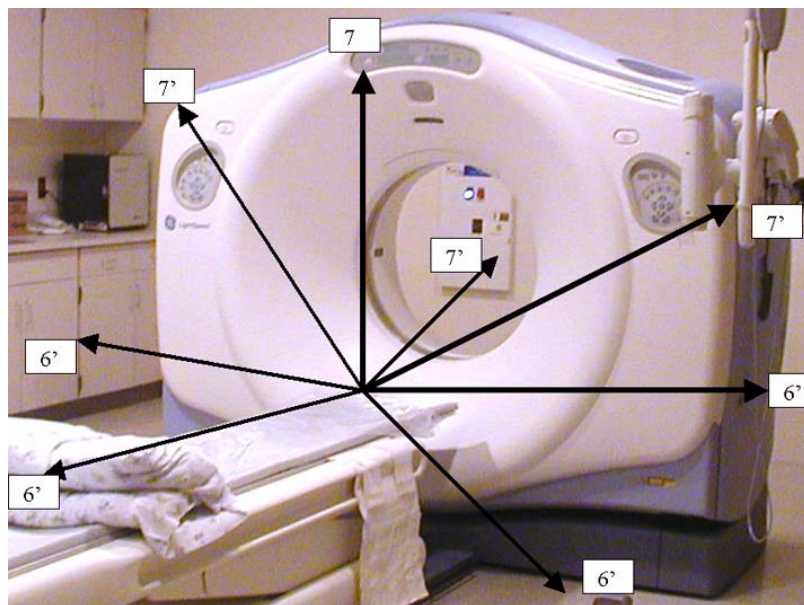

Figure 8-3 Measurement Points
- 10.) Testing must be completed between the system reference ground point (table base) to unit reference ground points (i.e. gantry and table, see Figure 8-3).